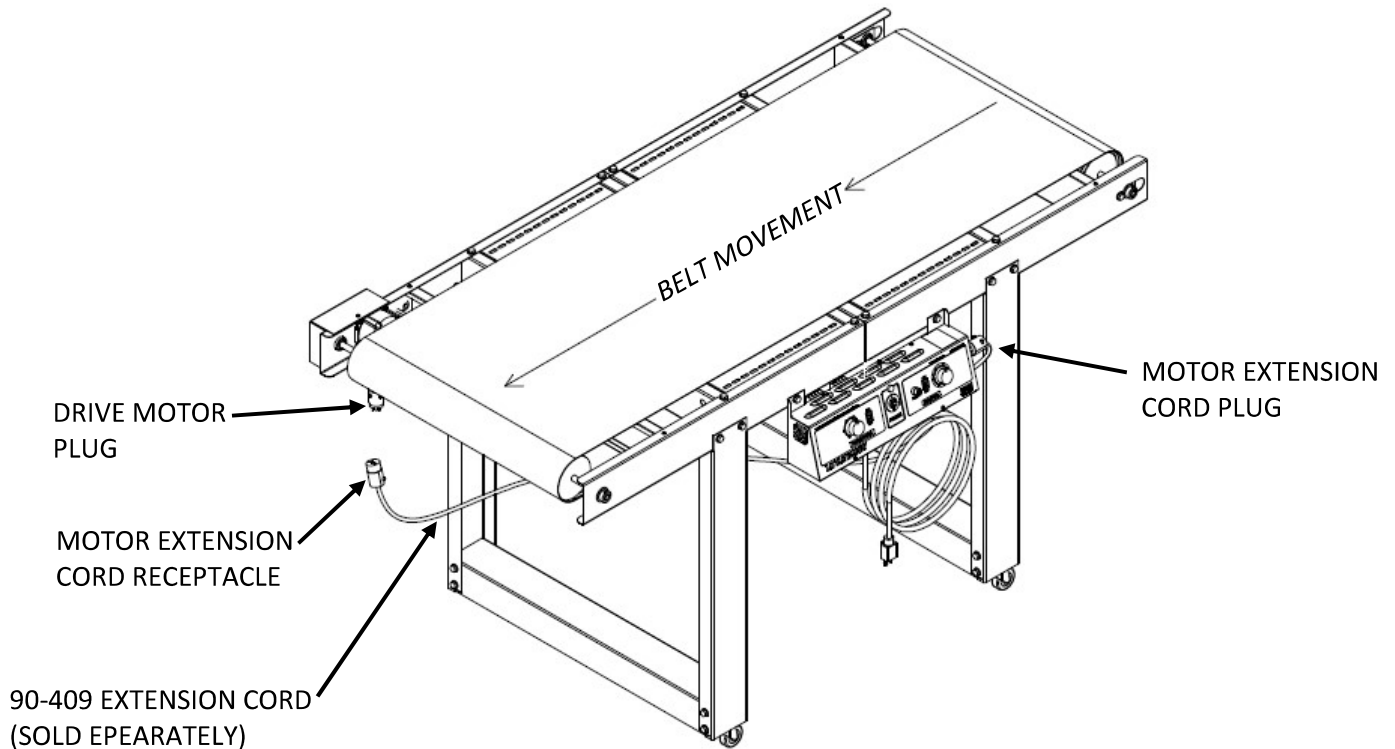

Figure 9
1. Use two **5/16-18 x 3/4L BOLTS** to fasten the control panel to the **CONVEYOR** (see **Figure 9**).